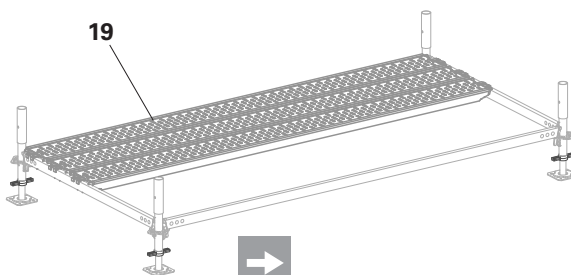
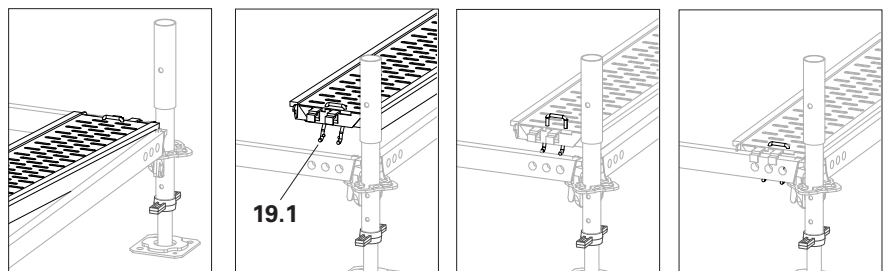

Fig. B3.03
Fig. B3.03a
4. Fit temporary Steel Decks UDG-2 (**19**) in the base level as an installation aid. (Fig. B3.03 + Fig. B3.03a)